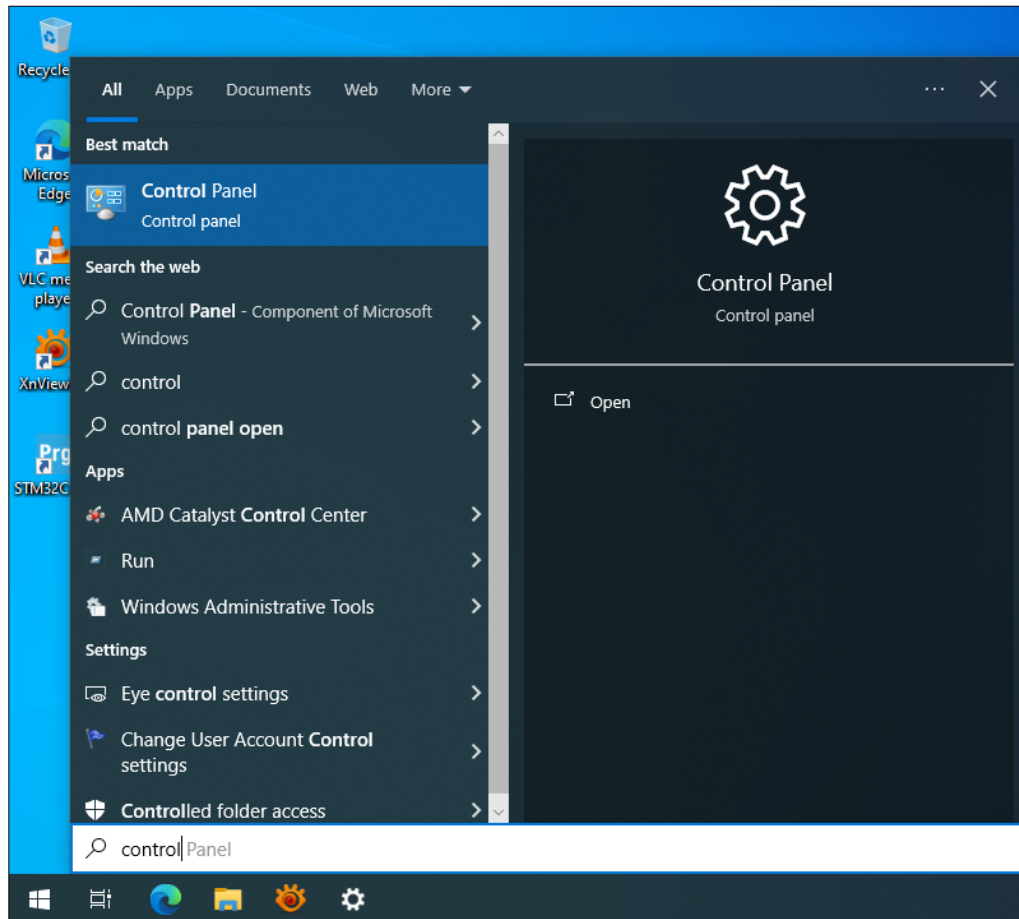

Figure 25: Invoking the "Control Panel" from the "Start".
- 1 Open legacy "Control Panel" dialogue (see Fig. 25),